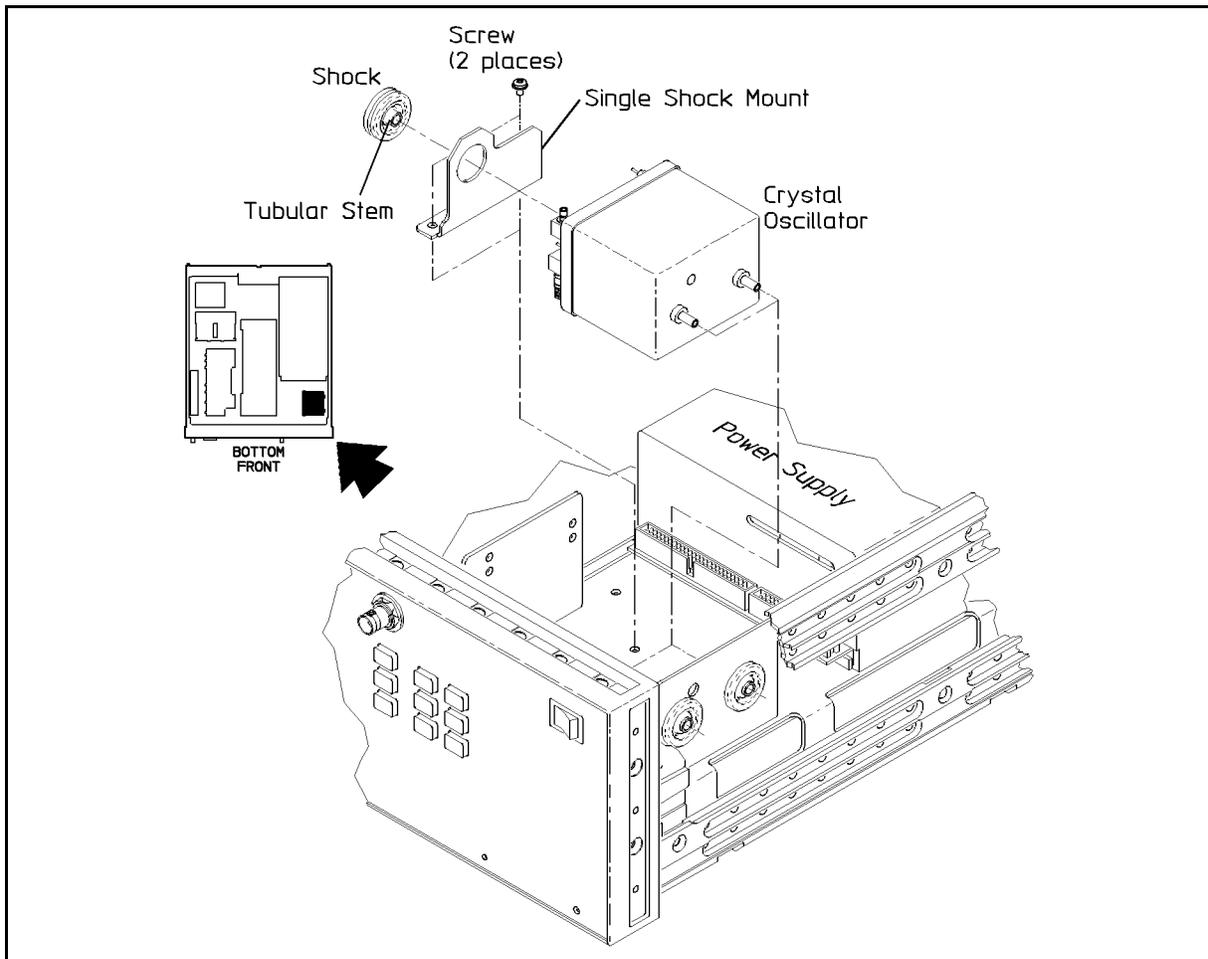

Figure 5-18. Crystal Oscillator Removal
1. Using a size 10 TORX® screwdriver, remove the two (2) Crystal Support screws from the single shock mount assembly. See Figure 5-18.